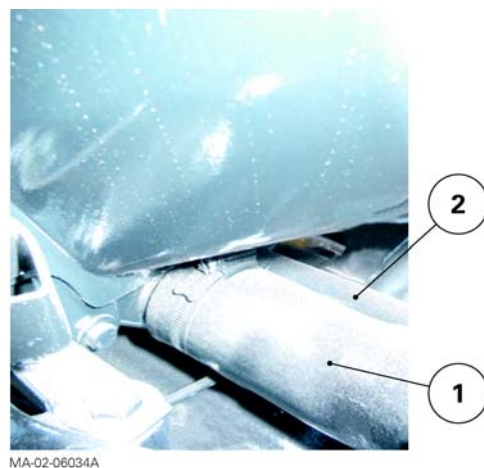

Fig. 6
16. Disconnect the lower radiator hose (1) and the hose (2) linking the expansion tank to the base of the radiator (Fig. 6).